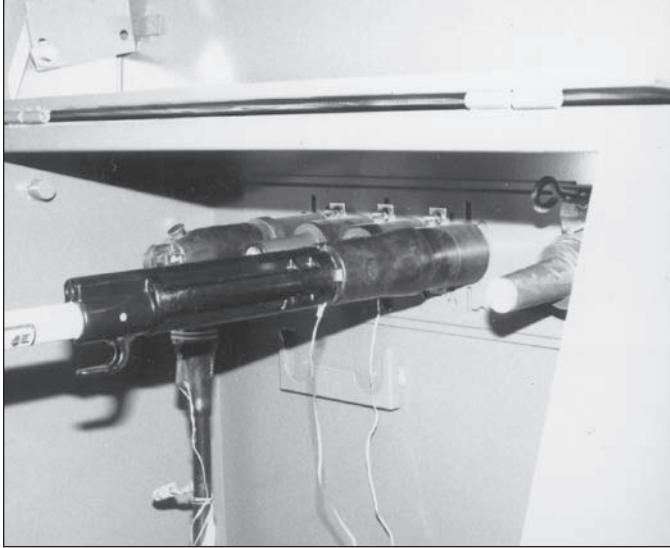

Figure 5.
- Twist the hotstick to the left and right to break any surface friction (Figure 5).